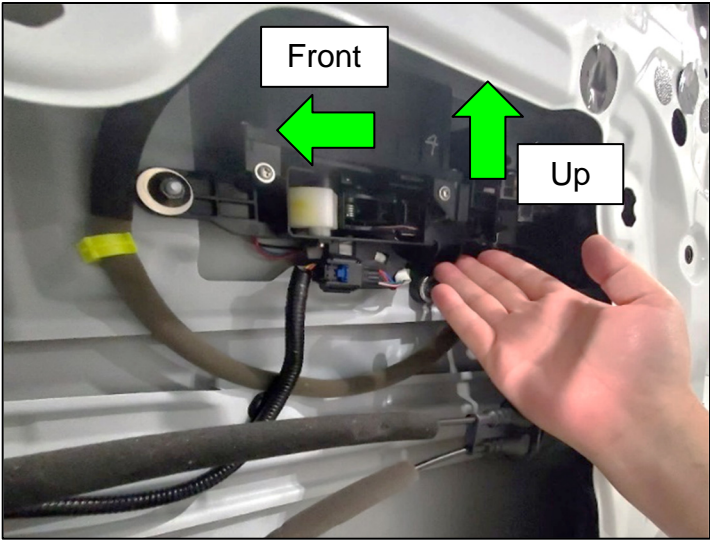

Figure 15
13. Using light pressure, push the Outside Door Handle Base on the inside slightly upward and toward the front of the Door as shown in Figure 15.